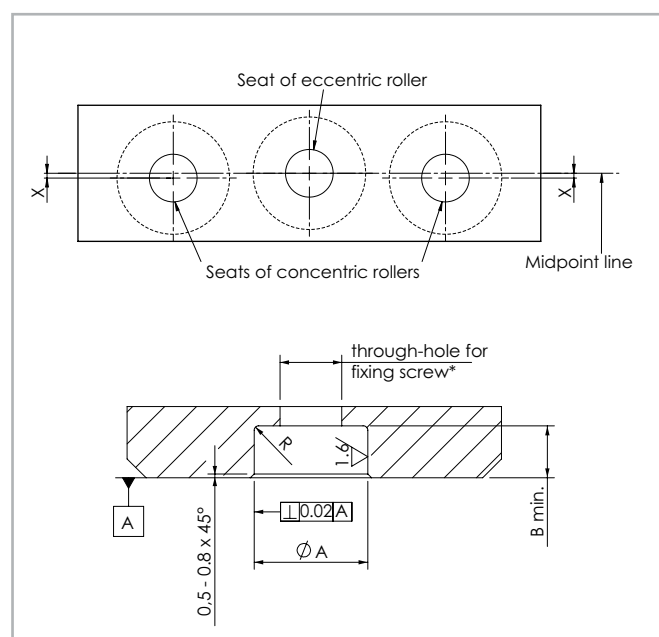

Fig. 69
- To install rollers type CPN/CPA, CPNX/CPAX, CRN/CRA, CRNX/CRAX it is necessary to make a slot in the structure according to the dimensions shown on Fig. 69.